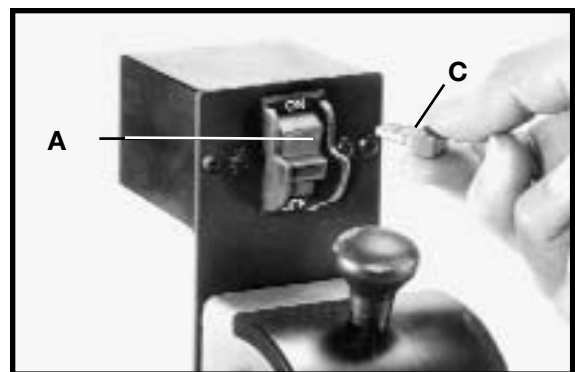

Fig. 18
IMPORTANT: When the machine is not in use, the switch should be locked in the “OFF” position to prevent unauthorized use. To lock, grasp the toggle (C) Fig. 18, and pull it out of the switch (A).
With the safety toggle (C) Fig. 18 removed, the switch will not operate. However, should the safety toggle be removed while the wood lathe is operating, the switch can be turned “OFF” once, but cannot be restarted without inserting the safety toggle (C) back into the switch.